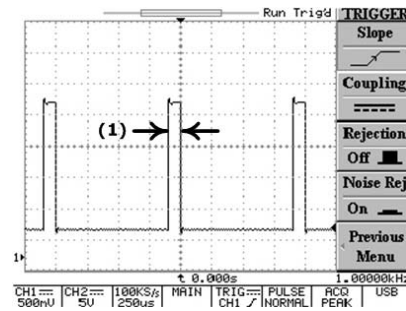

Figure 5-16: Pulse-width trigger with positive polarity selected
(1): When positive polarity is selected, the trigger will take place on the high to low transition of the pulse if the compare condition is met. See figure 5-16.